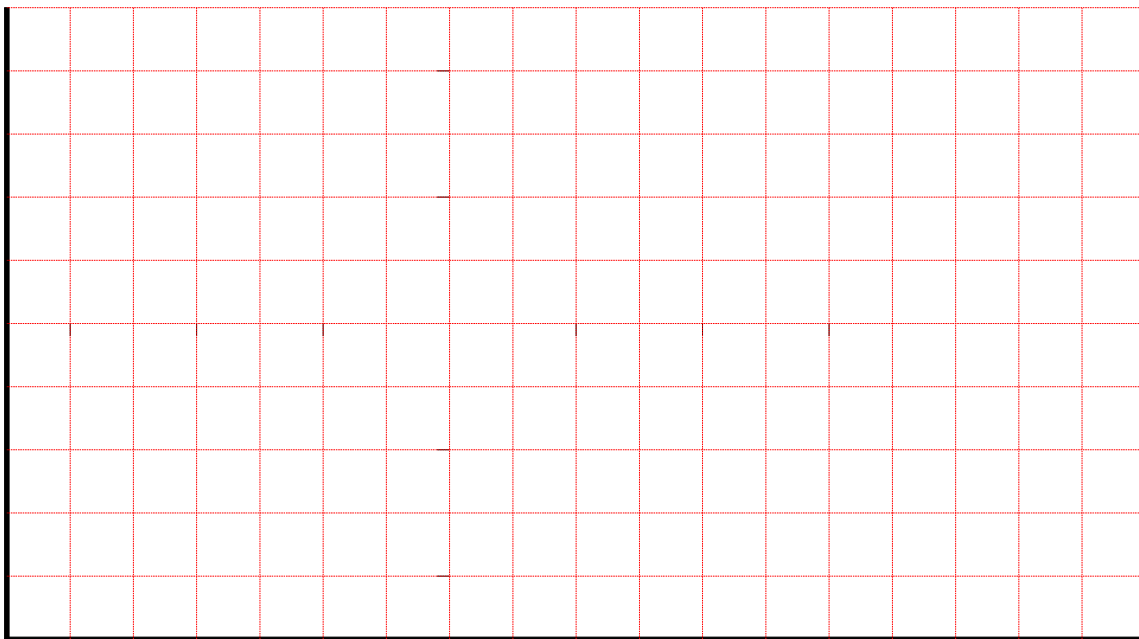

Figure 3 - Axis for Plotting Curve of Intact Statical Stability
11. Re-arrange the equation at (11) to derive an equation that can be used to calculate the internal righting arm being developed by the model (GZ).
13. On the axis at Figure 3 plot the curve of intact statical stability (**starboard heels only**) for a ship with the following stability characteristics. **Ensure to label all axes.**
18. In the next portion of the lab, the center of gravity of the ship will be shifted transversely. The effect this has upon the curve of intact statical stability will be measured. It should be possible to predict this effect by an analysis of the heeling ship shown in Figure 3.
19. In the box below, use Figure 3 to derive an equation for the new righting arm (G_1Z_1) after a transverse shift in the center of gravity from G_0 to G_1 . Your equation should include the old righting arm (G_0Z_0) and the angle of heel (ϕ).